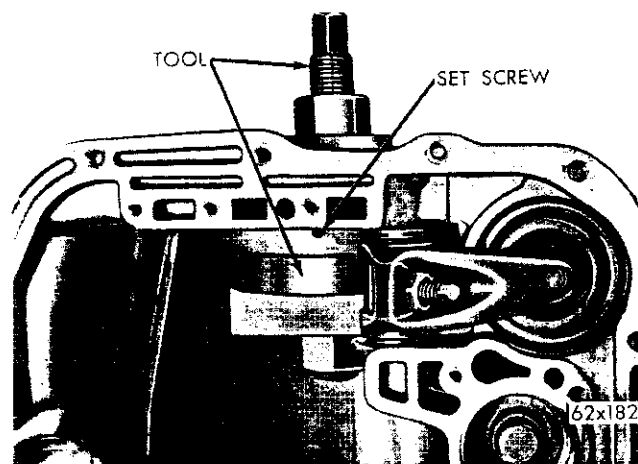

Fig. 74—Installing Overrunning Clutch Cam
(5) Position the cam in the case with cam serrations aligned with those in the case. Tap the cam evenly into the case as far as possible with a soft mallet.
(6) Install Tool C-3863 as shown in Figure 74, tighten nut on the tool to seat the cam into the case. Make sure the cam is firmly "bottomed", then install the cam retaining set screw. Stake the case around the set screw to prevent it from coming loose.